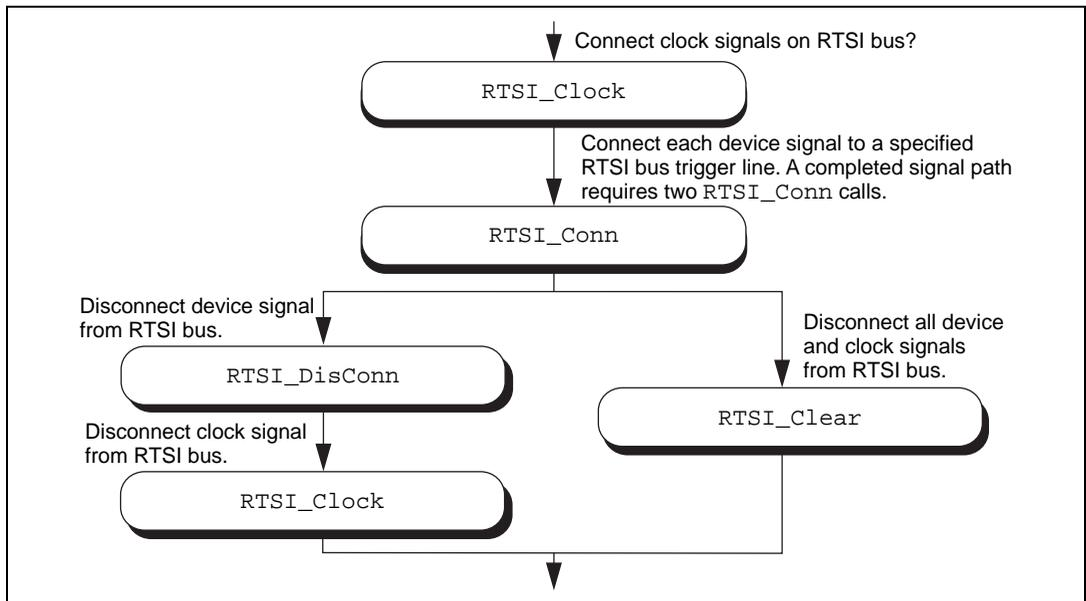

Figure 3-39. Basic RTSI Application Calls
3. Disconnect the signals from the RTSI bus. Figure 3-39 illustrates the normal order of RTSI function calls.